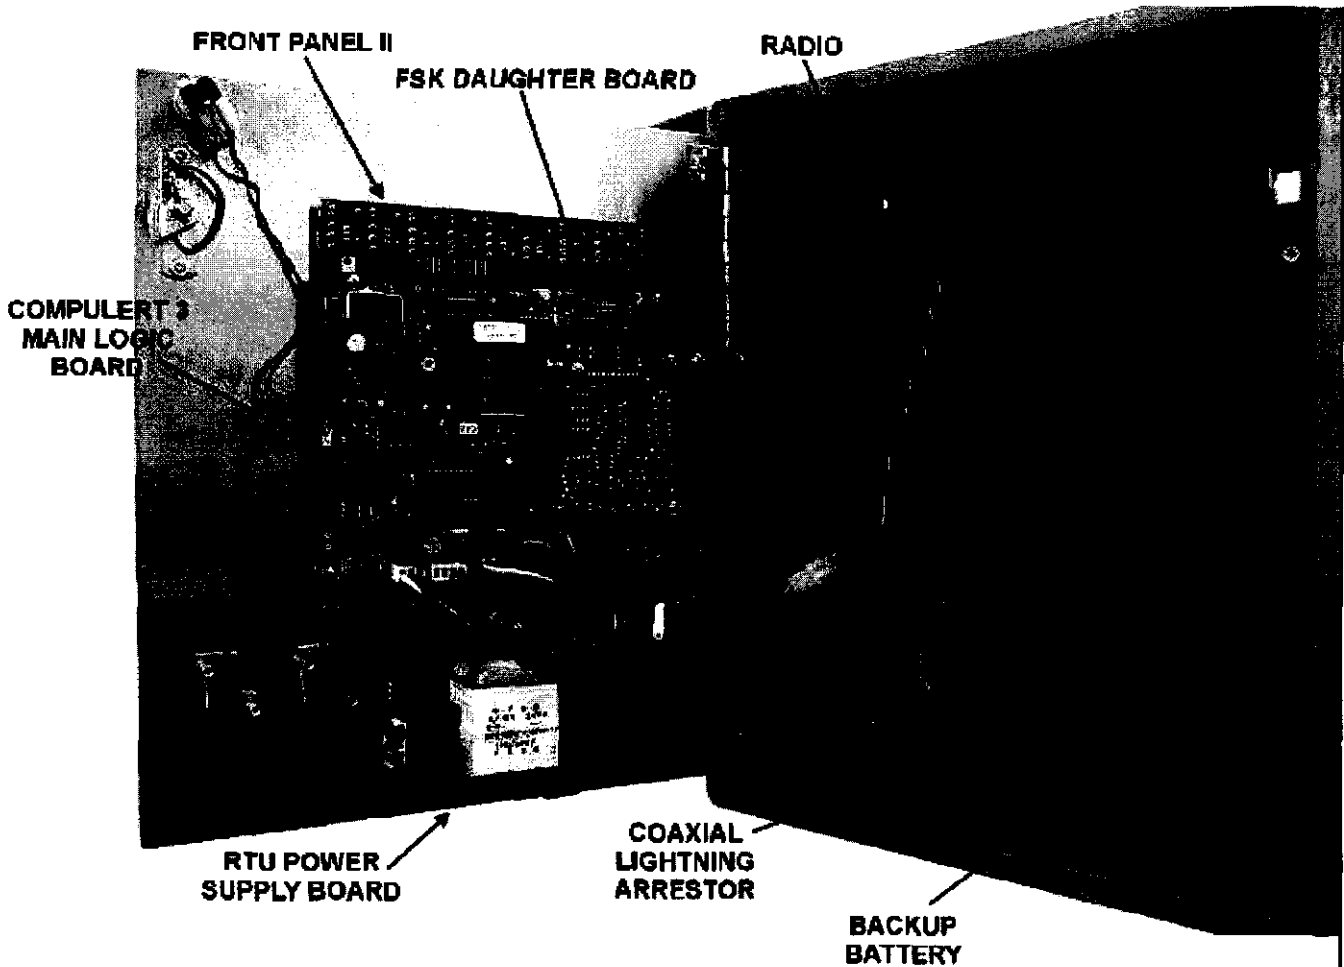

Figure 1
The RTU 2001-AC Decoders (See Figure 1) consist of five major components: (1) Compulert 3 Main Logic Board, (2) Compulert 3 Front Panel, (3) FSK Format Daughter Board, (4) RTU Power Supply Board, and (5) Radio/ Landline Interface Card. The RTU 2001-AC Decoder provides a standard set of six local buttons that can operate either the standard four mechanical siren signals (See Table 1) or any number of custom siren signals. There is also a local Cancel button present on all RTU units.